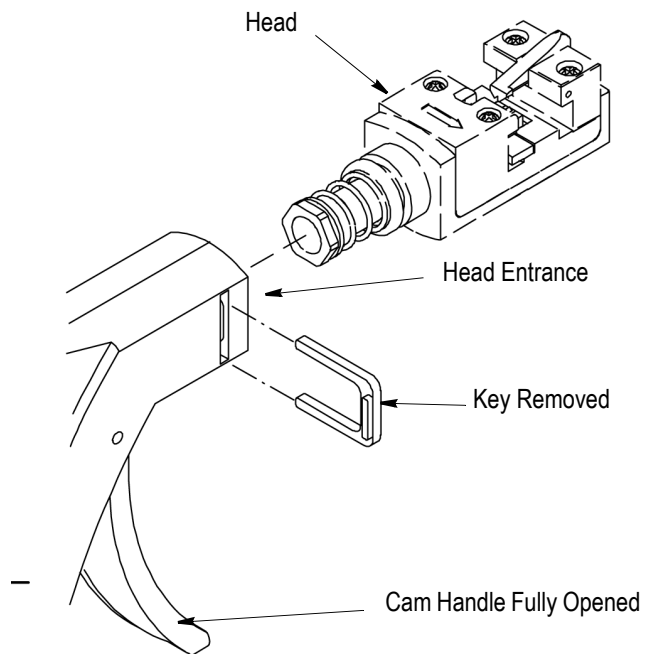

Figure 2
3. Insert the terminating head into the head entrance until the head bottoms. See Figure 2.